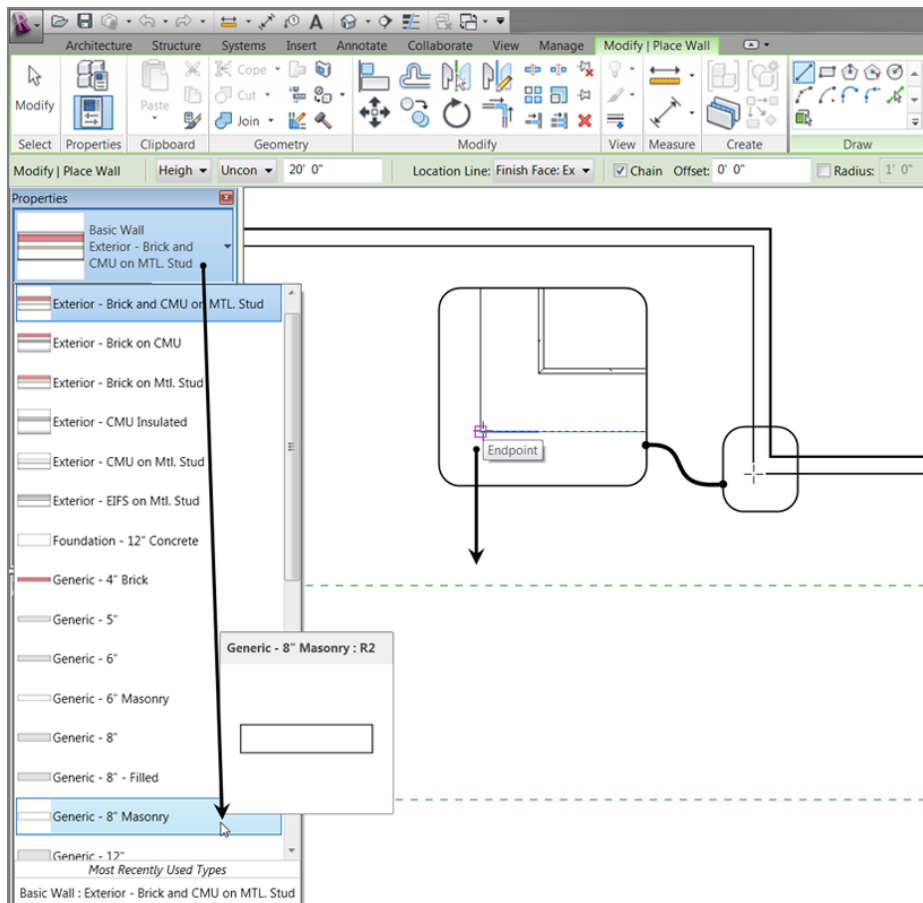

FIGURE 2.21: Start drawing the 8" (200mm) CMU elevator shaft in the corner indicated here. Turn on Thin Lines if you need to.
1. Open or make sure you're in Floor Plan Level 1. Zoom into the north-east corner of the building, as shown in Figure 2.21.
3. In the Type Selector, select Generic - 8" Masonry (Generic - 200), as shown in Figure 2.21. (Metric users use the Generic - 225mm Masonry wall.)
4. For the starting point, pick the corner as shown in Figure 2.21. The wall will probably be in the wrong orientation, so if necessary, tap the spacebar to flip the wall's orientation.